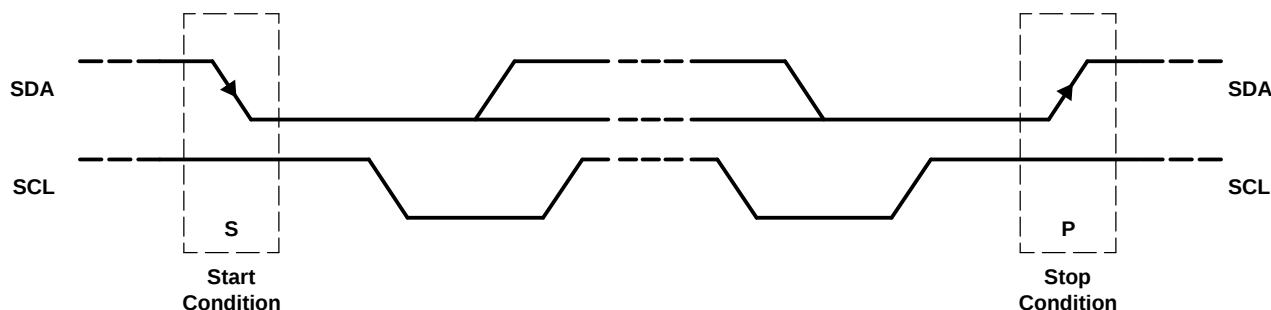

Figure 41. START and STOP Conditions
- The *Master* initiates data transfer by establishing a *Start* condition. The *Start* condition is defined when a high-to-low transition occurs on the SDA line while SCL is high, as shown in Figure 41. The byte following the start condition is the address byte consisting of the 7-bit slave address followed by the $\bar{W}$ bit.